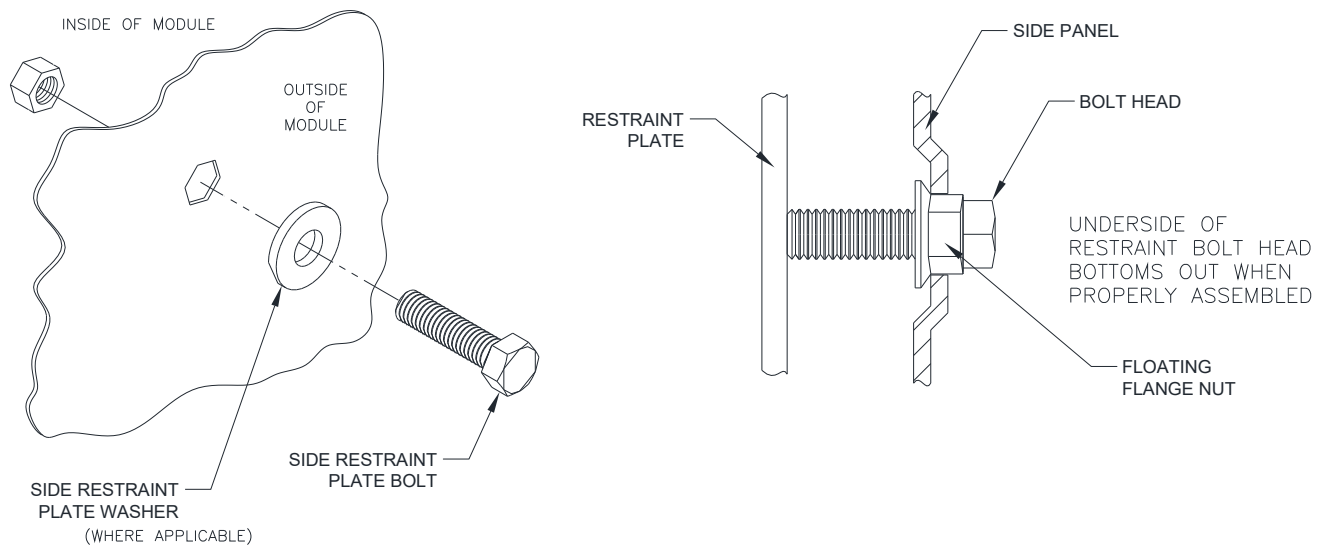

Figure 6-4A Floating Flange Nut Detail
2. Prior to cell insertion assemble the two (2) side restraint plate bolts and washers (when required) into the floating flanged nuts through the hex-shaped recessed holes on the right side of the modules (or both sides for the 45", 49" and 58" wide modules); Ref Figure 6-4A, Flange Nut Detail). Do not completely tighten the bolt/washer/nut assemblies at this time.